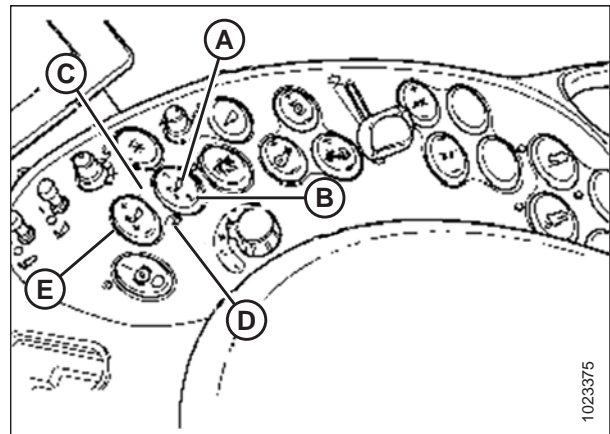

Figure 4.60: Case Combine Controls
You can adjust these set points by using FINE ADJUST switch (E) in Figure 4.60, page 122.